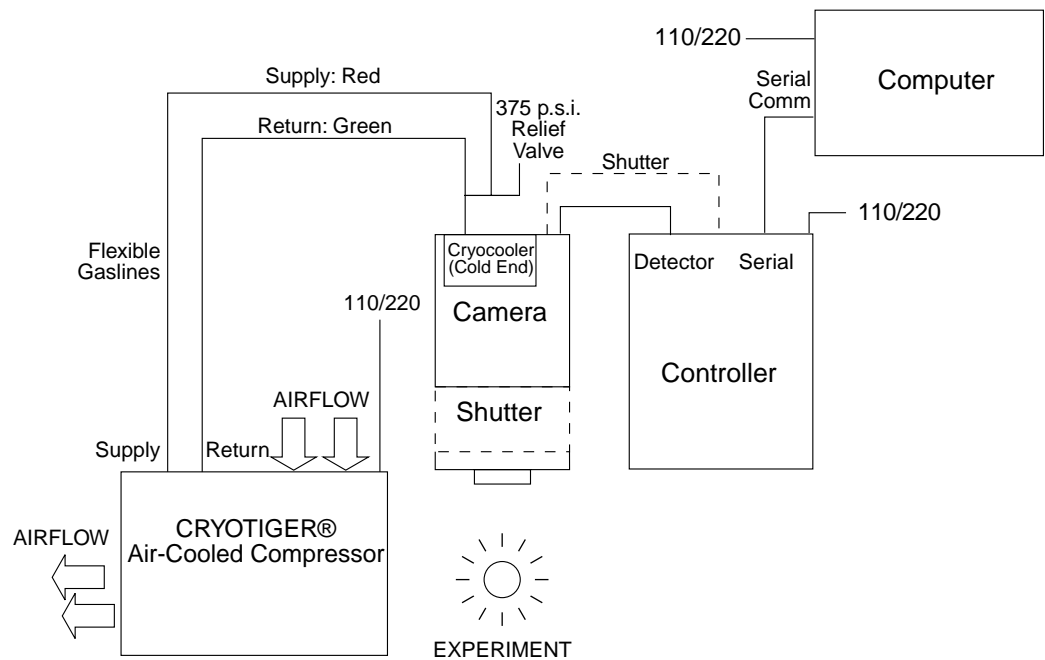

Figure 27. Imaging System Diagram: CRYOTIGER-Cooled Camera
11. Repeat the previous step at the camera. Be sure to match the label colors on the gas lines with those on the camera ports. Figure 27 provides a diagram of a CRYOTIGER-cooled system layout.